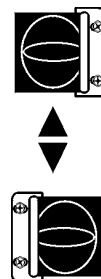

Figure 5-5.
5. Move the door strike to the opposite side. Orient as Figure 5-5. Install the four nylon hole plugs into the holes on either side of the strike.